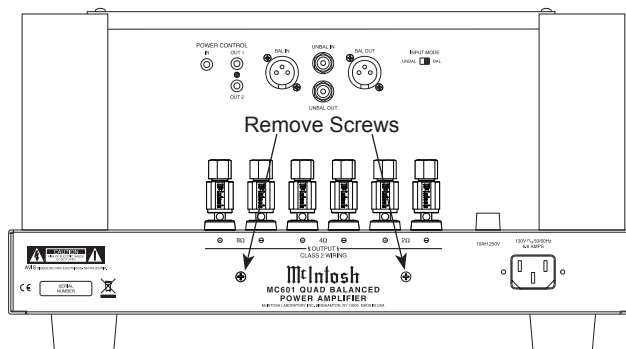

Figure 1
5. Using a suitable tool remove the two screws from the MC601 Rear Panel and temporarily place them in a safe place. Refer to figure 1.